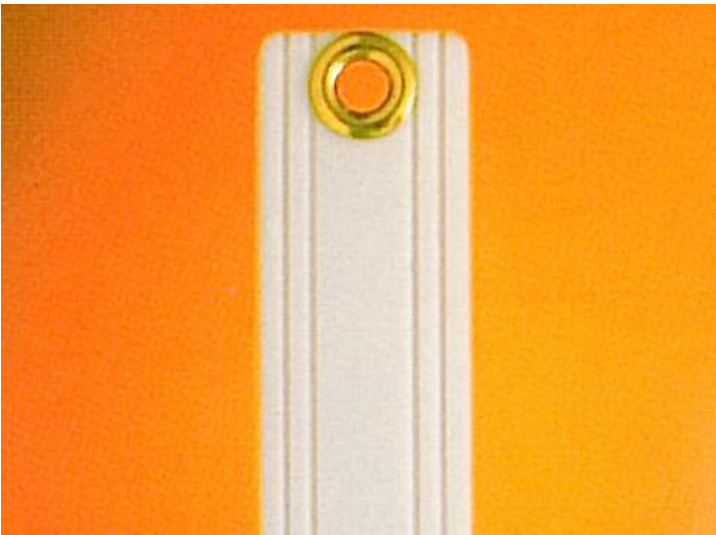

Figure-1
**GLIDETEC BODY STRAPS:** (Figure-1) These are the white plastic straps that are 36" in length. They are to be used when lift remains. Place one strap under the shoulder region, one under the buttock/lower back region, and one under the knee region. To place these straps under the body two techniques may be use.